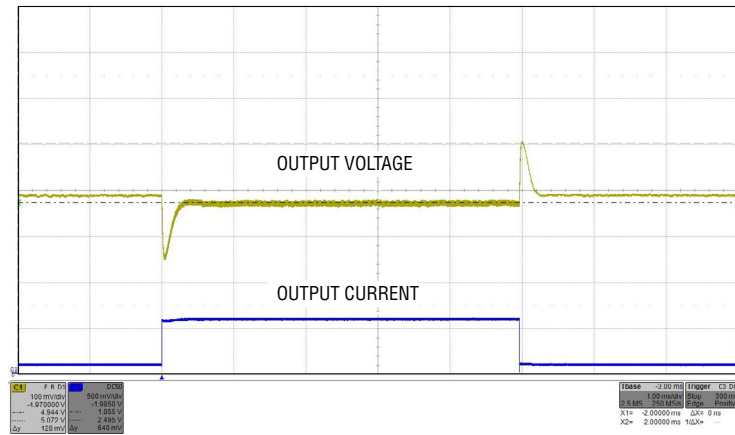

Figure 4. 100mA to 600mA Load Transient with $V_{IN1} = 3.5V$ in Fixed Frequency Mode
The DC2045A circuit has excellent transient load response in both fixed frequency and automatic Burst Mode operation as shown in Figures 4 and 5.
12. With JP2 in the FIXED FREQ position and PS1 at 3.5V switch the load from 100mA to 600mA and back. Note the output voltage response. (Figure 4).